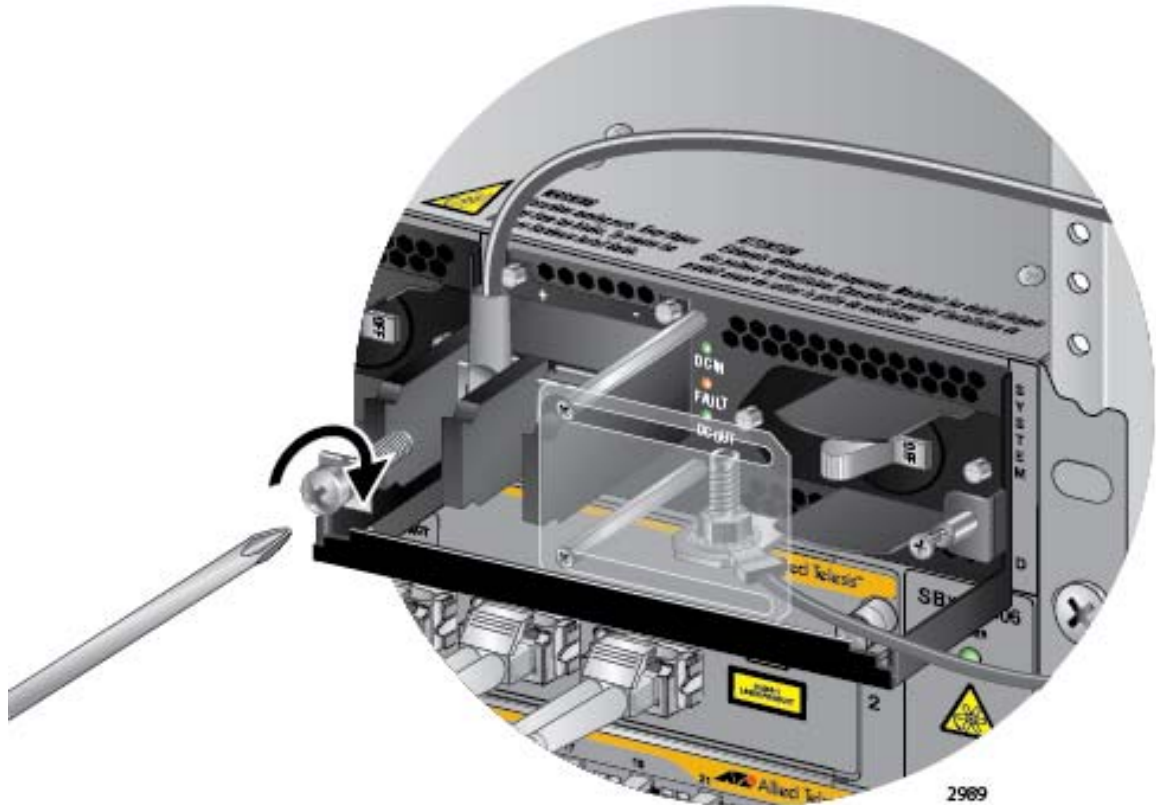

Figure 128. Connecting the Positive (+) Power Wire with a Straight Terminal
6. With a #3 Phillips-head screwdriver, connect the positive (+) power lead wire to the positive terminal on the power supply, with one of the terminal screws removed in the previous step. The positive terminal is on the left. You may attach the terminals with the wires either above or below the terminal block. Figure 128 on page 195 shows the positive wire above the terminal block.